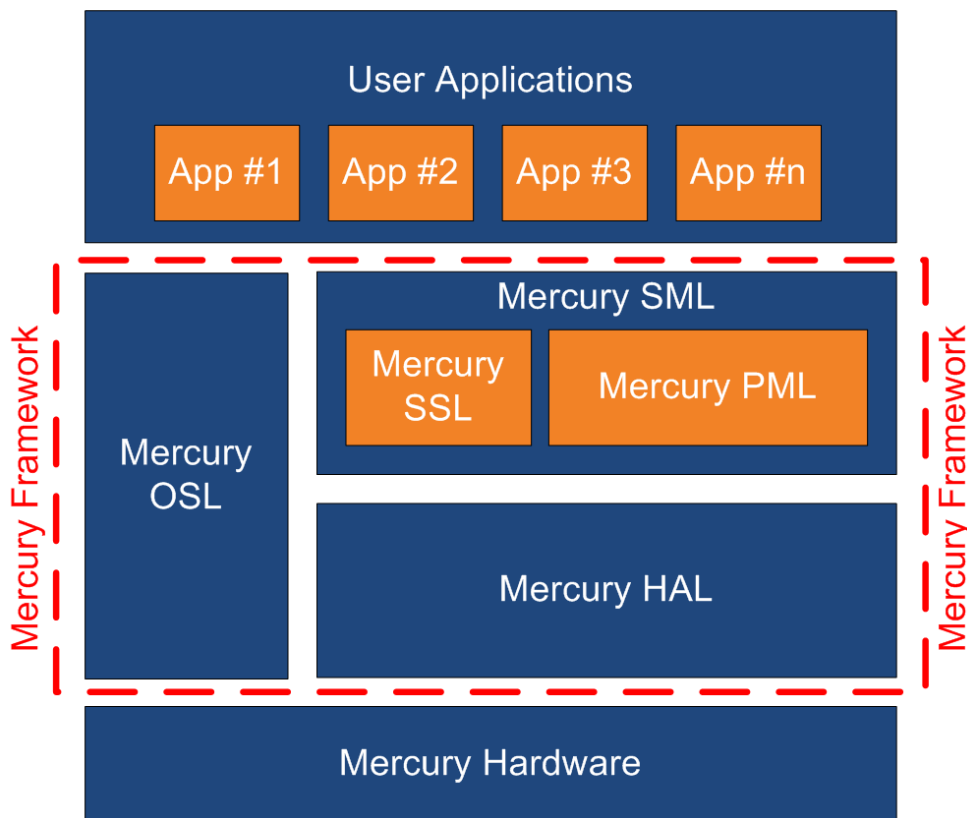

Figure 12 - Mercury System Framework Architecture
The Mercury System Framework (MSF) is a layered SW framework specifically designed to support application development with Mercury System. It provides to the user a complete set of base functionalities to easily interface MS Slave Boards (SB) and Modem Boards (MB) as well as some infrastructural and system services. Figure 12 shows the layered Architecture of the MSF.